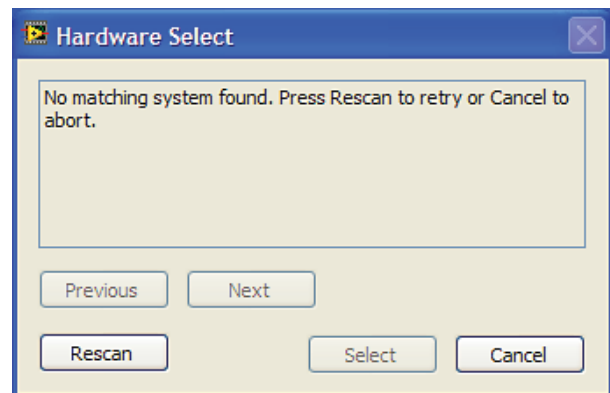

Figure 14. Connectivity Error Alert
2. If the **EVAL-AD7656-1SDZ/EVAL-AD7657-1SDZ/EVAL-AD7658-1SDZ** evaluation system is not connected to the USB port via the **EVAL-SDP-CB1Z** when the software is launched, a connectivity error displays (see Figure 14). Connect the evaluation system to the USB port of the PC, wait a few seconds, click **Rescan**, and follow the on-screen instructions.